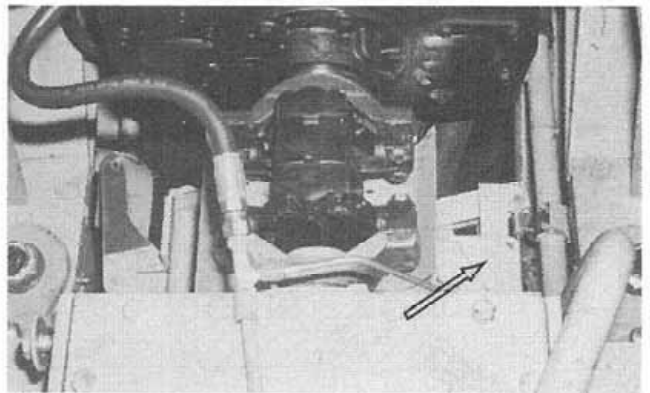

Figure 13:
14. Mount the shift cable and bracket assembly on the detent block and connect the linkage to the shift rod (Fig. 13). Ensure correct shift cable adjustment and operation so that the sliding clutch and selective gears mesh fully in each range.